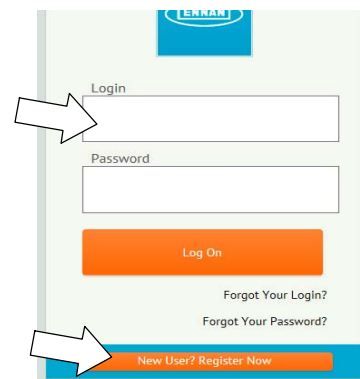

Fig. 17
2. Log on to the “My Tennant” website or register as a new user (Figure 17).